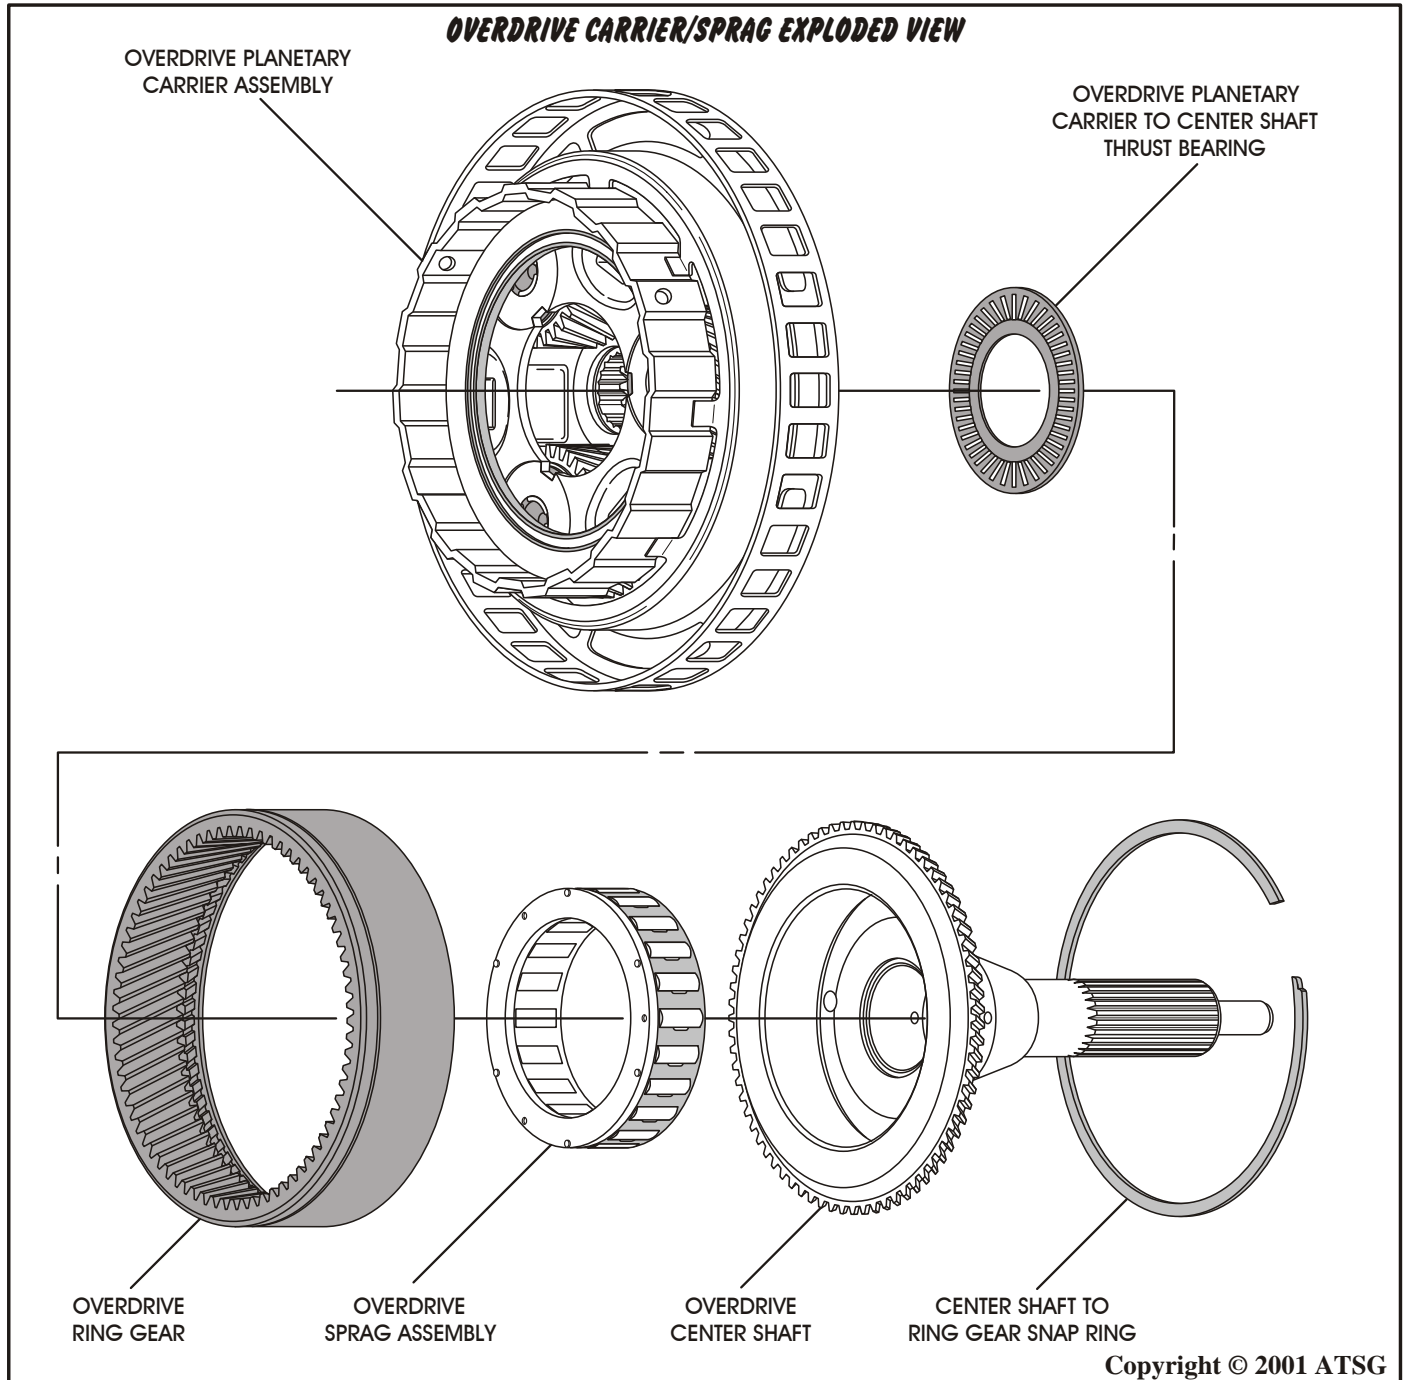

Figure 70
1. Disassemble the overdrive carrier from center shaft using Figure 70 as a guide.
2. Inspect all of the overdrive carrier parts shown in Figure 70 for any wear and/or damage.